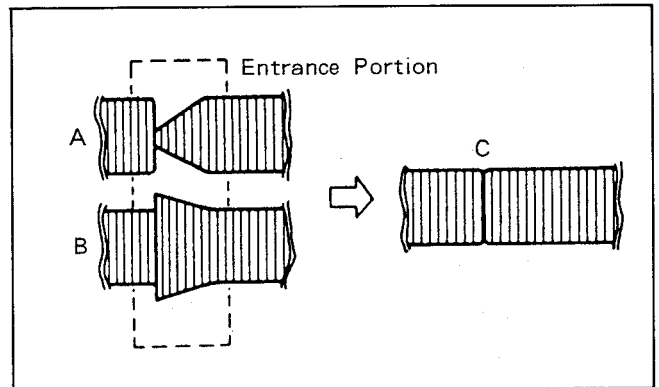

Fig. M8
3. If the RF envelope appears like example "A" or "B" in Fig.M8 then adjustment of the tape guide post (P2:Entrance) is necessary.
4. Adjust the tape guide post (P2) with the post adjustment screwdriver so that the RF envelope waveform at the entrance portion becomes flat as shown in Fig.M8—"C".